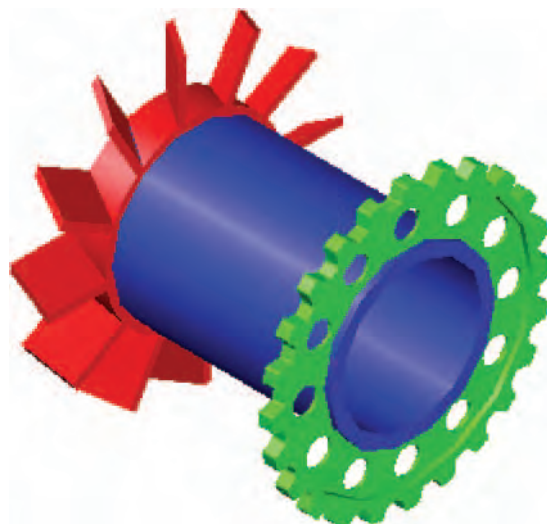

Fig. 15.45 First example – printing a single copy
First example – printing a single copy (Fig. 15.45)
3. *Click* the **Preview** button of the dialog and if the preview is OK, *right-click* and in the *right-click* menu which appears, *click* **Plot**. The drawing plots producing the necessary hard copy (Fig. 15.45).